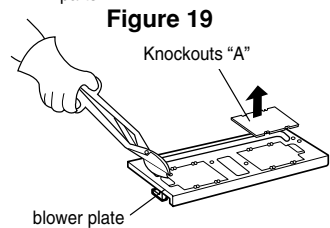

Figure 20
2. Use side cutter or thin snips to cut and remove knockouts "A" from Blower plate. Discard knockouts. Be careful not to distort the plate. See Figure 20.